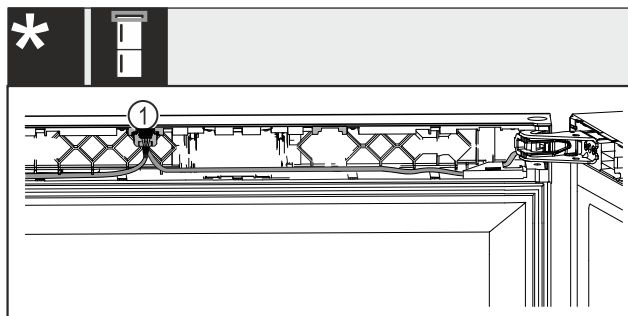

Fig. 50 Wine-freezer combinations*
- Snap the plug Fig. 50 (1) into the guide.*